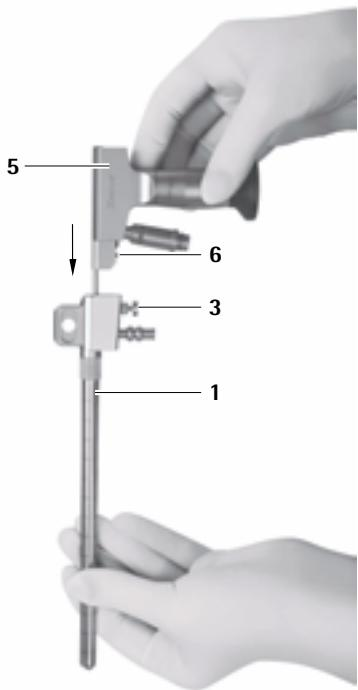

Fig. 2
- Secure the endoscope 5 in the MINOP inVent trocar 1, see Fig. 2.